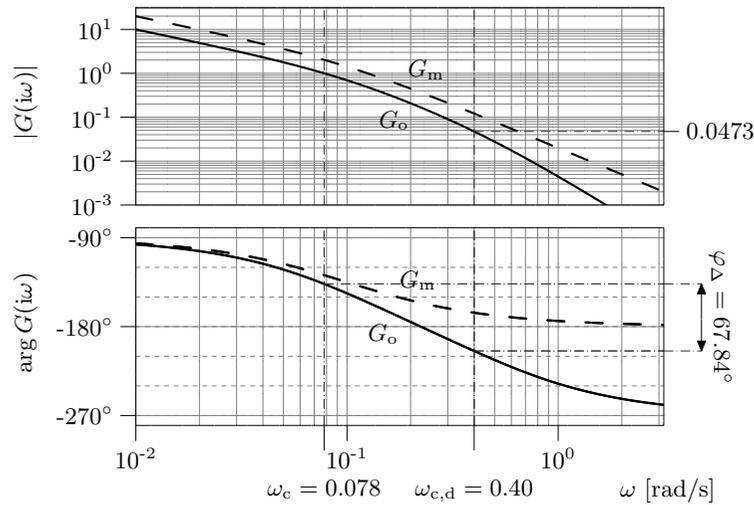

Figure 5.9a
5.9 a)  $k_A = 0.25$  and  $a = 0.5$ . The Bode plot is given in Figure 5.9a.